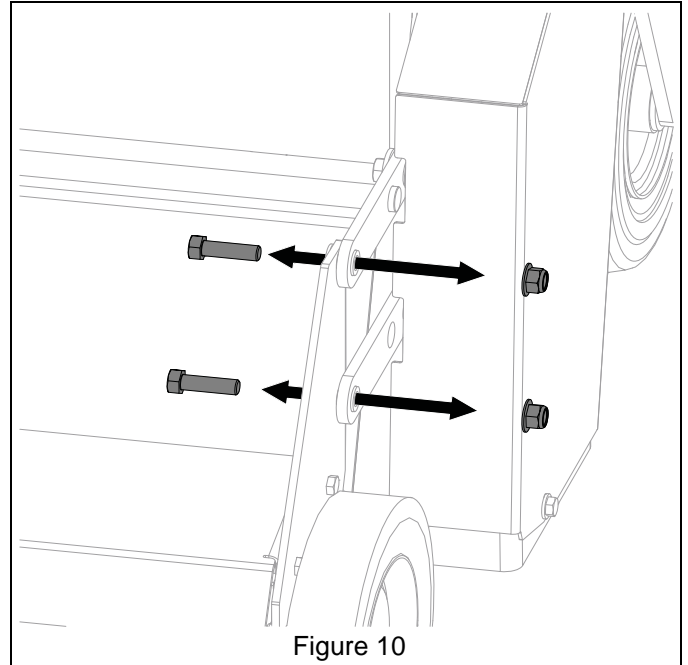

Figure 10
11. Remove and retain two hex bolts and nyloc nuts from outer brackets. Repeat on opposite side. See Figure 10.